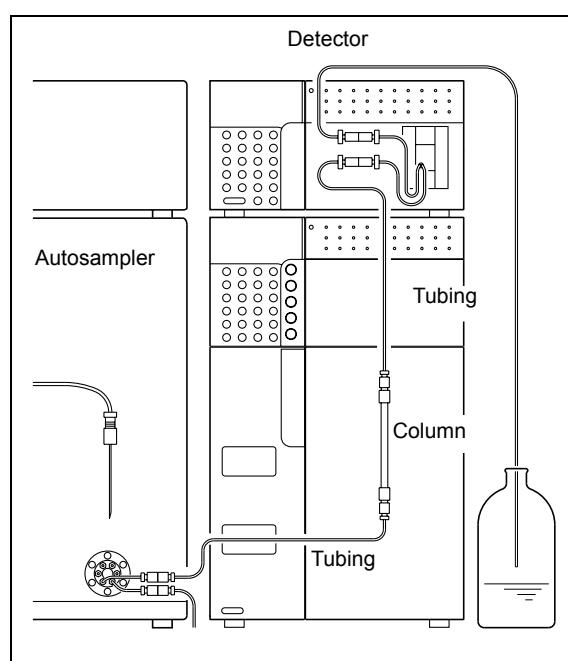

Fig. 7.3
- 4** When cleaning is finished, pour mobile phase (mixture of water and methanol (3/2, (v/v)) into the reservoir, and reconnect the column with the LC system ("Fig. 7.3").